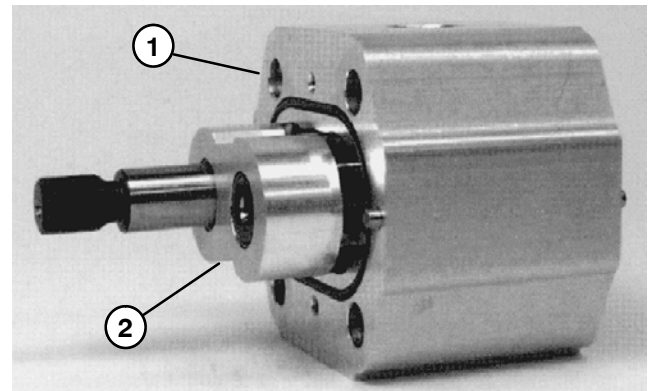

Figure 68
7. Place the motor on its side and push on the rear bearing block to remove the bearing block and gear set (Fig. 68).